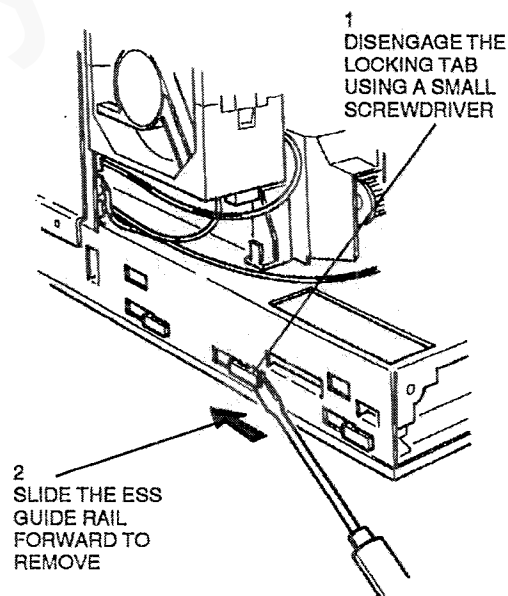

Figure 1. ESS Guide rail removal
6. (Figure 1) Remove the ESS Guide Rail.